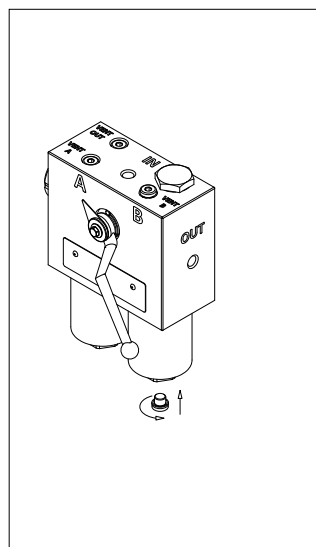

fig. 22
- (Fig. 22) Screw the drain plug in referring to the tightening torque table in paragraph 3